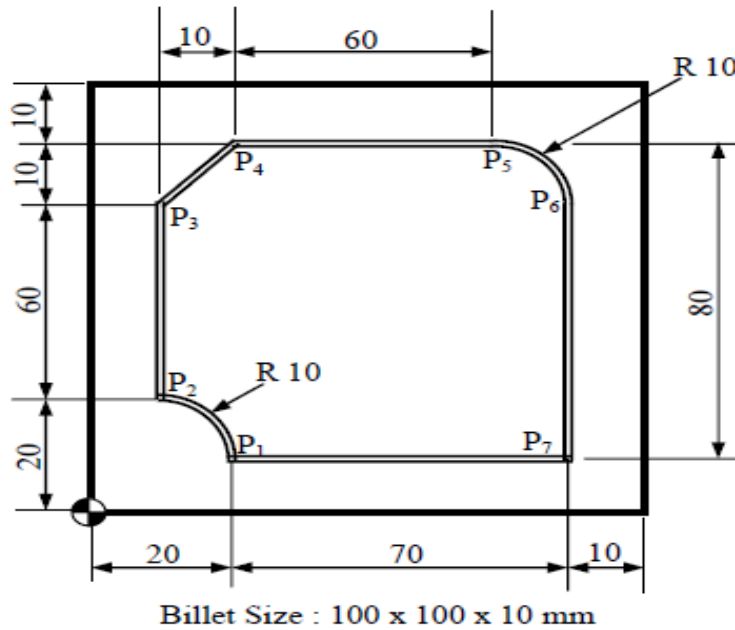

Figure-3
14. Write a part program to perform the contour slotting operation on the component as shown in the figure-3 (C.O.No.4) [Application]